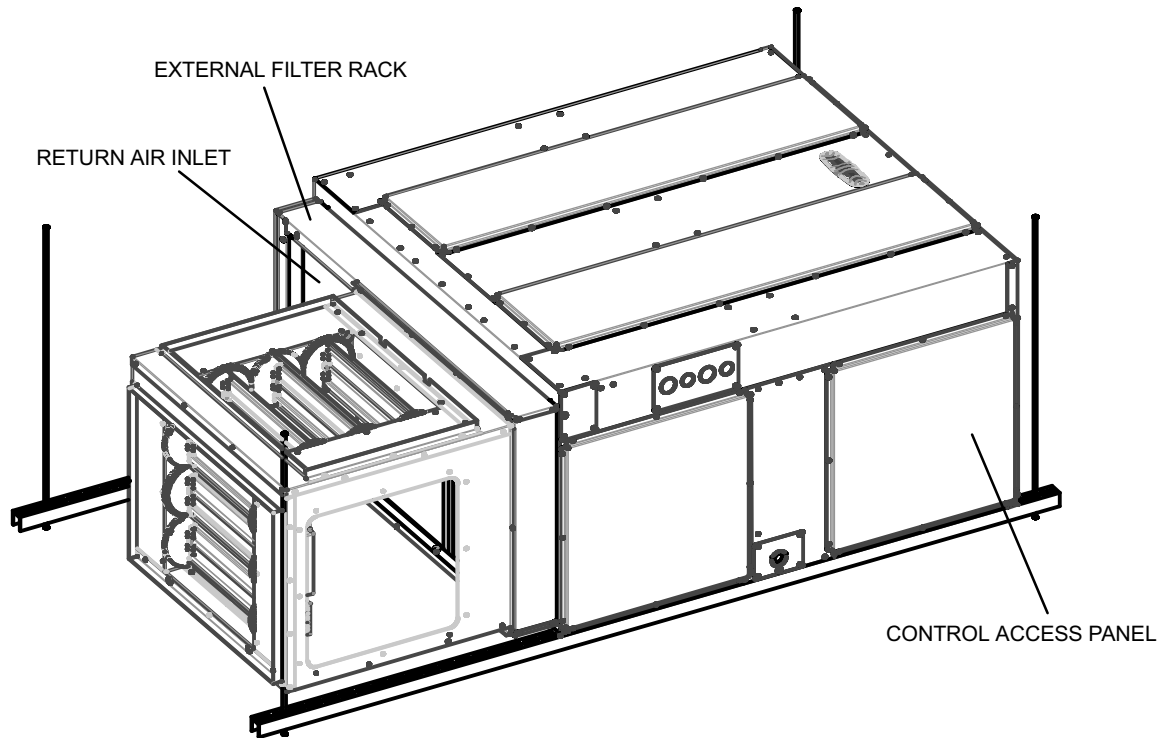

Figure 2. Upflow and Horizontal Applications
3. Attach economizer over filter rack, attached to the return air opening, with screws provided (figure 2).